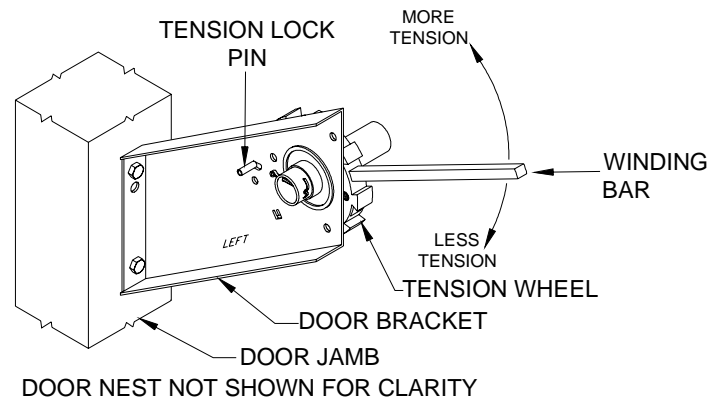

Figure 18.
13.3T to add tension, insert winding bar and move down until ratchet clicks after 1/8 turn. Move up slightly until ratchet locks in place. See Figure 18.
16.4 Carefully rotate the door away from the wall until **NO** tension is on the spring(s). Unbolt spring(s) from bracket(s). On doors with optional tension adjustment system, reference Step 13.1T and Figure 18 to remove all tension on that side of the door.